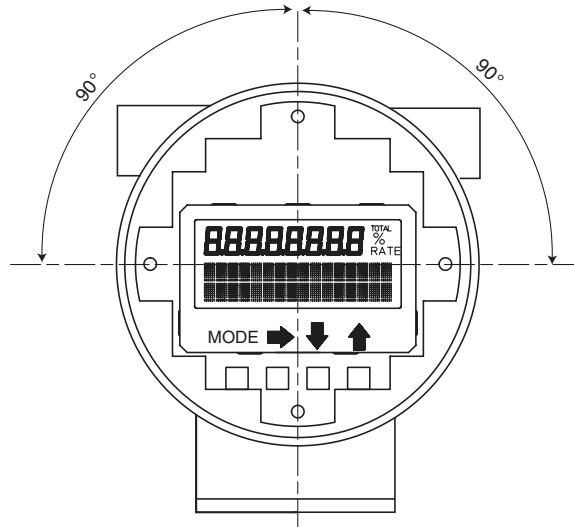

Figure 9. Movable Range of Display/Data Setting Device
6. Turn the local display unit to the desired direction and align it to the threaded holes in the transmitter housing. See Figure 9 for allowable turning range.